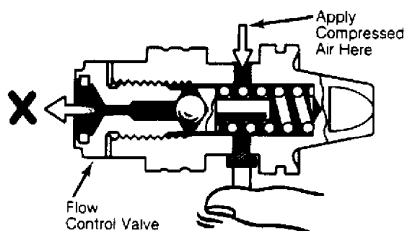

Fig. 4: Checking Flow Control Valve
3) Using 57-71 psi (4.0-5.0 kg/cm²) compressed air, check flow control valve for leakage. See Fig. 4. Spring length should be 1.42-1.49" (36-38 mm). Replace spring if length is not as specified.